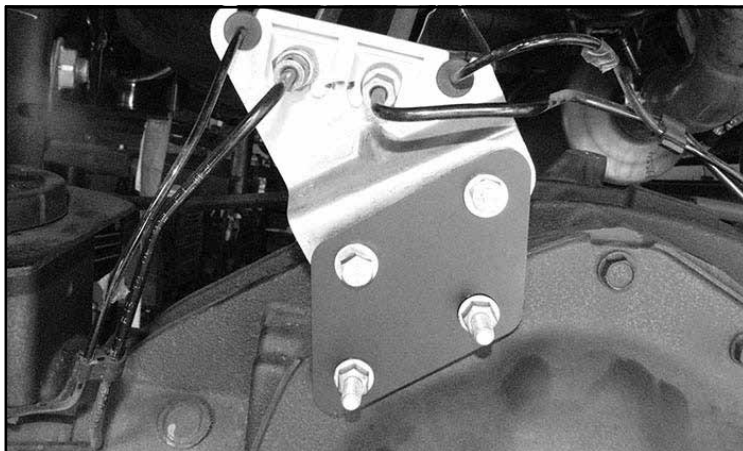

FIGURE 82 - STEP 72
72. Locate and install FT44307 (Rear brake line bracket) using the supplied 5\16" hardware from Bag 4 of the hardware kit. Torque to 29 ft-lbs. **SEE FIGURE 82**